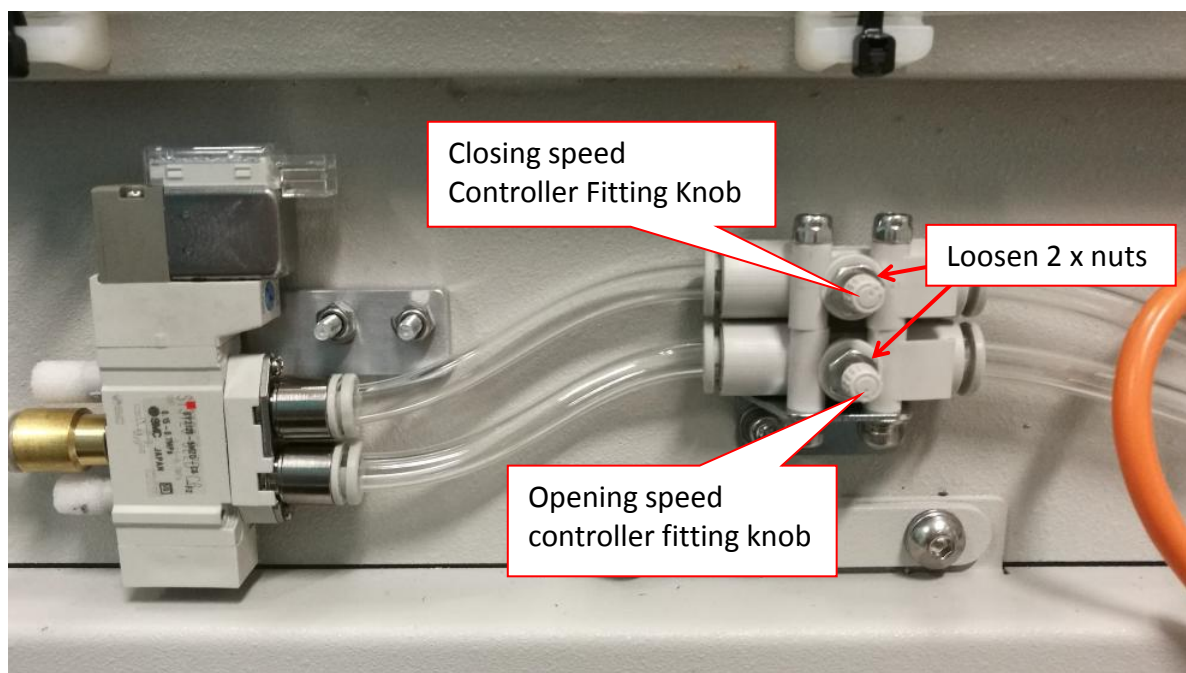

Figure 8 Closing speed adjustment
- Loosen Nut & adjust Speed Controller Fitting Knob as shown in Figure 8 until closing / opening speed is within below range. Tighten 2 x Nut after adjustment.